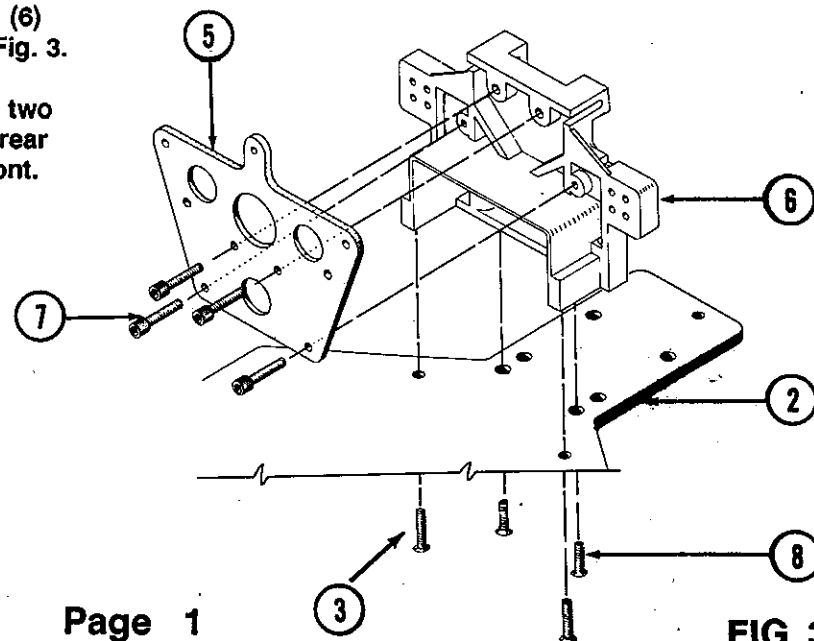

FIG. 3
3. Fasten rear shock tower (5) to rear bulkhead (6) using four 4-40 x 3/8" socket head screws (7). Fig. 3.
4. Secure rear bulkhead (6) to chassis (2) using two 8-32 x 1/2" flathead aluminum screws (8) in the rear and two 4-40 x 3/8" flathead screws (3) in the front. Fig. 3.